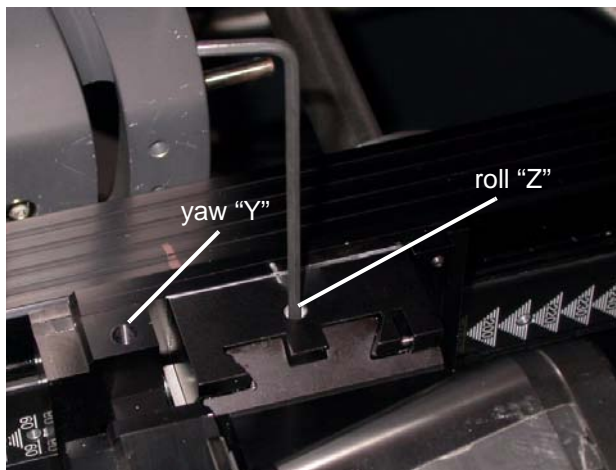

Figure 8.2 - Yaw “Y” and roll “Z” adjustments
3. Adjust the yaw “Y” of the 2 DOF. The yaw adjustment uses opposing screws. To make an adjustment, first loosen the opposing screw and then tighten the adjusting screw (see Figure 8.2).